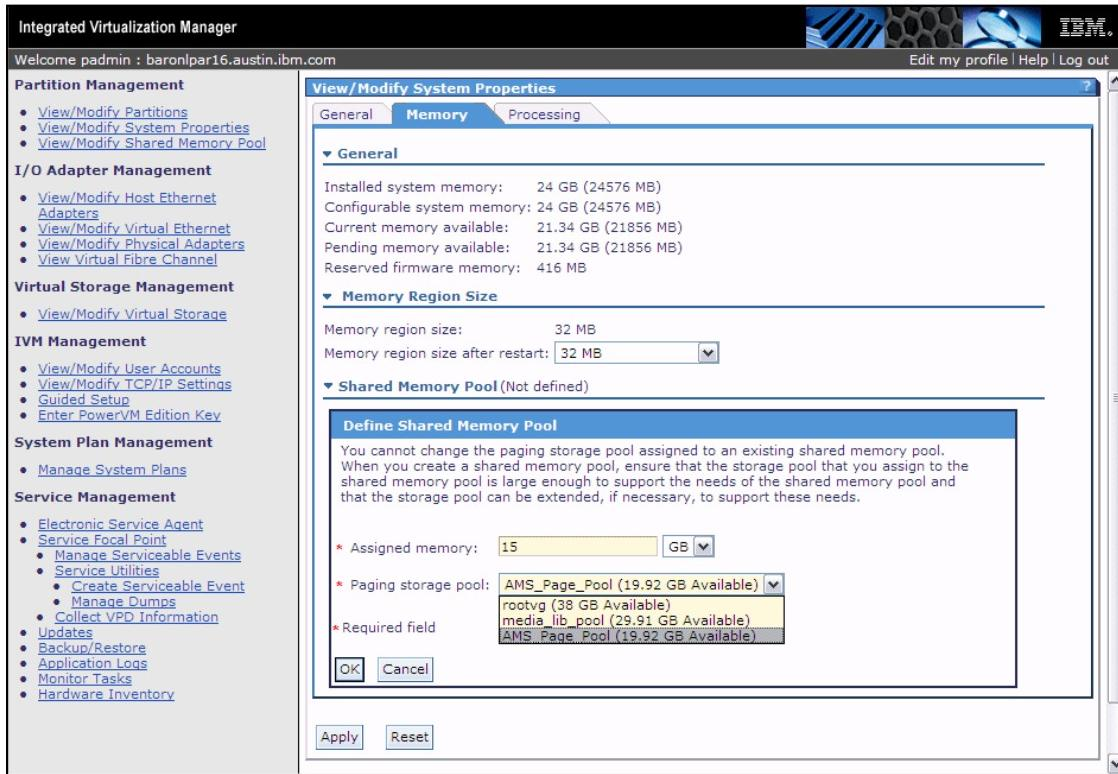

Figure 5-6 Shared memory pool configuration values
- Clicking the **Define Shared Memory Pool** button will open the dialog for input of the desired memory pool size and the storage pool to be used for the paging storage pool. When these values have been entered and selected from the drop down box as shown in Figure 5-6 on page 189 click the **OK** button.